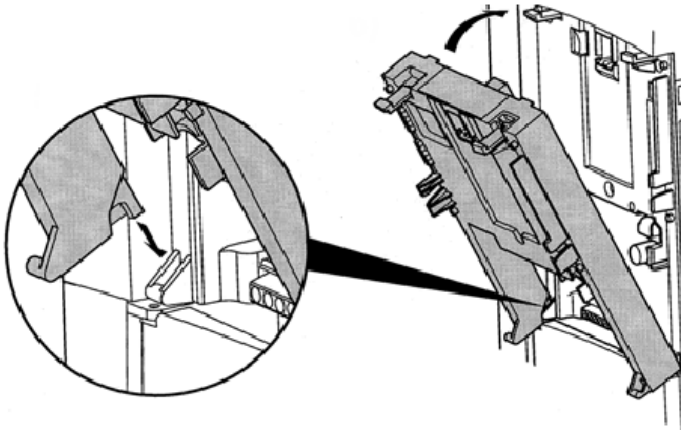

Figure 3: Installing the Interface Card
4. Install the interface card into the drive by inserting the tabs on the lower legs of the interface housing into the corresponding slots on the drive's enclosure. Rotate the interface housing up and press it onto the drive enclosure's mounting tabs, depressing firmly until the housing snaps into place (Figure 3). Double-check that the plastic bosses located on the left and right side of the drive enclosure are properly inserted into the corresponding recesses on the back of the interface housing, and that the interface housing is overall secure and flush with the drive enclosure.